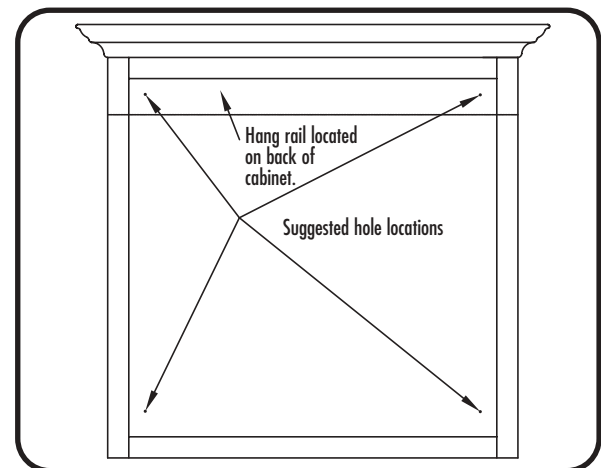

Figure 15
- Place the cabinet into place, and using a #8 x 2" wood screw, secure the cabinet to the wall (Figure 15).